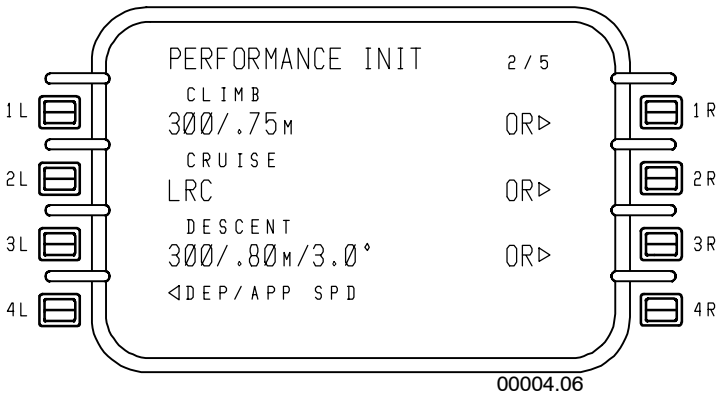

Figure 4–26
- **PERFORMANCE INIT 2/5** – Figure 4–26 displays the current speed schedules. To change any mode, select the OR prompt for the respective mode or enter the calibrated airspeed (CAS)/MACH data directly. Default values can be restored by using the *DELETE* function on the appropriate line.
As an example, when the OR prompt for cruise is selected, the cruise mode page, shown in Figure 4–27, is displayed. The cruise mode desired can be selected from the available list. This action makes the selected cruise mode active and returns the display to PERFORMANCE INIT 2/5. In this example, Long Range Cruise (LRC) is the active mode.